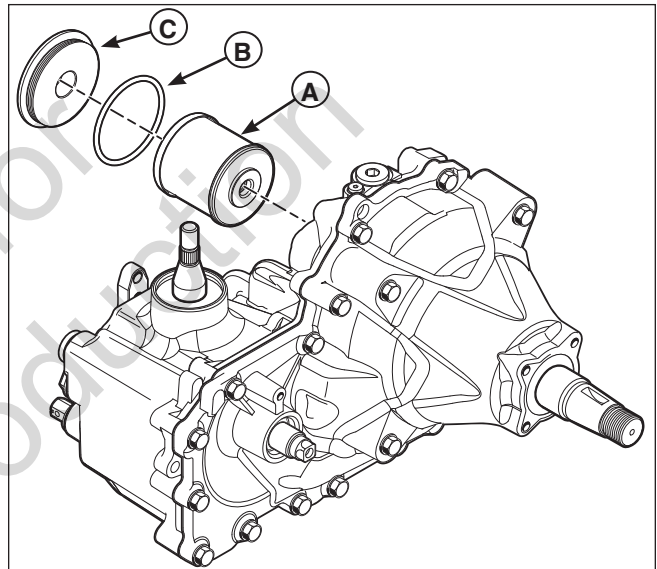

Figure 25. Integrated Transmission
1. Locate the hydraulic oil filter (A, Figure 25) on the side of the transaxle.
2. Remove the filter cover (C) and o-ring (B).